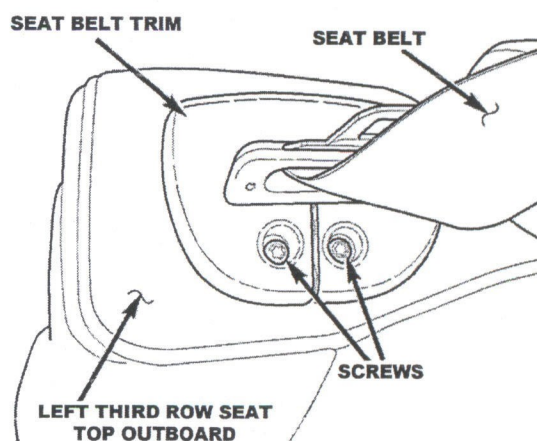

Figure 1
2. From the rear of the vehicle, move the seat belt away from the plastic seat belt trim cover on the seat back and remove the two screws (Figure 1).
11. Move the seat belt away from the plastic seat belt trim cover and remove the two screws (Figure 1).